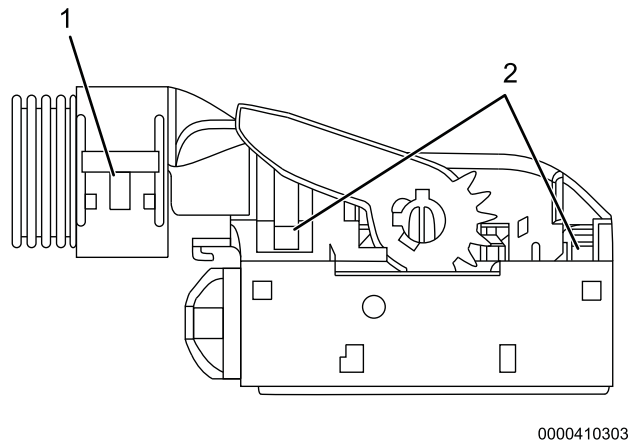

Figure 1. Backshell Tab Locations
1. Disengage retaining tabs from ring clamp (Figure 1, Item 1).
2. Remove backshell by releasing four retaining tabs (Figure 1, Item 2).